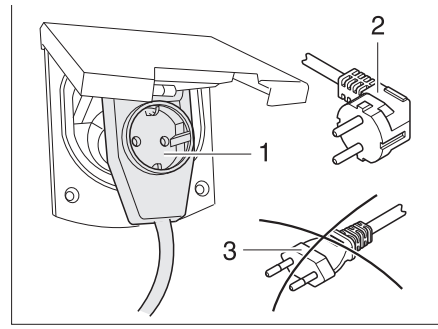

Fig. 309 Connecting an angled connector with socket
- ▶ When using a CEE 17 angled connector with rear socket (Fig. 309,1) only use a rubberised and sealed IP 44 socket with earth contact (Fig. 309,2). Do not use sockets without earth contact (Fig. 309,3). Danger of electrocution!